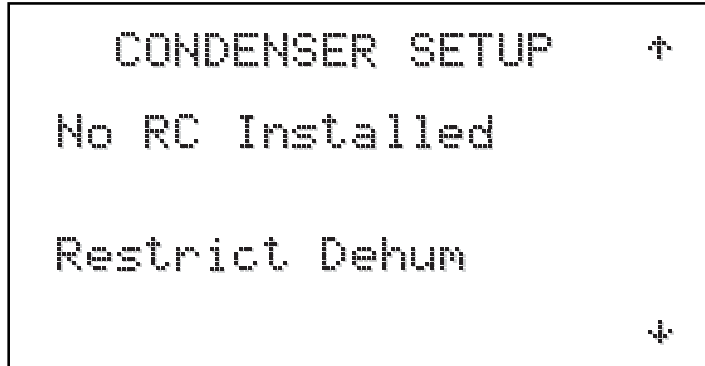

Figure 23
4.3.4.1.2 Configuration - Condenser Setup (Figures 23 and 24)
Pressing the **DOWN** key will now display the CONDENSER SETUP screen (Figure 23 or 24). If the unit has no provisions for a cooling condenser, the condenser screen will appear as Figure 23 stating 'No RC Installed'. In this case the compressor will only be allowed to run if dehumidification is required and cooling is not required. To allow the compressor to run whenever dehumidification is required, press the **ENTER** key, select 'Restrict Dehum' and change this to 'Allow Dehum'. Please note that in this case, overheating the space may occur or cause safety devices to trip. If this occurs, contact Desert Aire's Service Department at +1-262-946-7400.